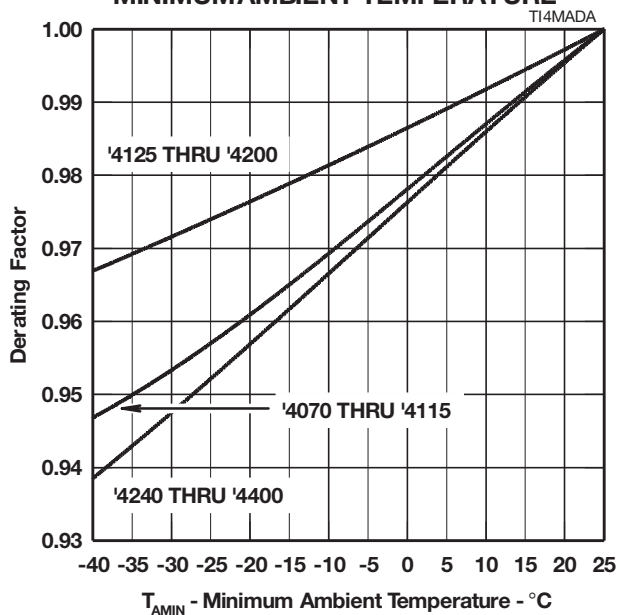

Figure 11.
- NOTES: 1. See Applications Information and Figure 11 for voltage values at lower temperatures.
Figure 11 allows the calculation of the protector  $V_{DRM}$  value at temperatures below 25 °C. The calculated value should not be less than the maximum normal system voltages. The TISP4265M3BJ, with a  $V_{DRM}$  of 200 V, can be used for the protection of ring generators producing 100 V rms of ring on a battery voltage of -58 V (Th2 and Th3 in Figure 18). The peak ring voltage will be  $58 + 1.414 \times 100 = 199.4$  V. However, this is the open circuit voltage and the connection of the line and its equipment will reduce the peak voltage. In the extreme case of an unconnected line, clipping the peak voltage to 190 V should not activate the ring trip. This level of clipping would occur at the temperature when the  $V_{DRM}$  has reduced to  $190/200 = 0.95$  of its 25 °C value. Figure 11 shows that this condition will occur at an ambient temperature of -28 °C. In this example, the TISP4265M3BJ will allow normal equipment operation provided that the minimum expected ambient temperature does not fall below -28 °C.